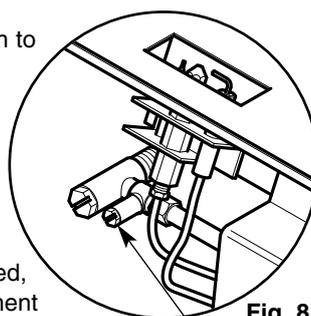

Fig. 8
1. Unscrew the inlet pressure test point sealing screw (Fig. 8) and fit a manometer. Consult the user instructions (page 11). Ignite the appliance and turn to the high position.